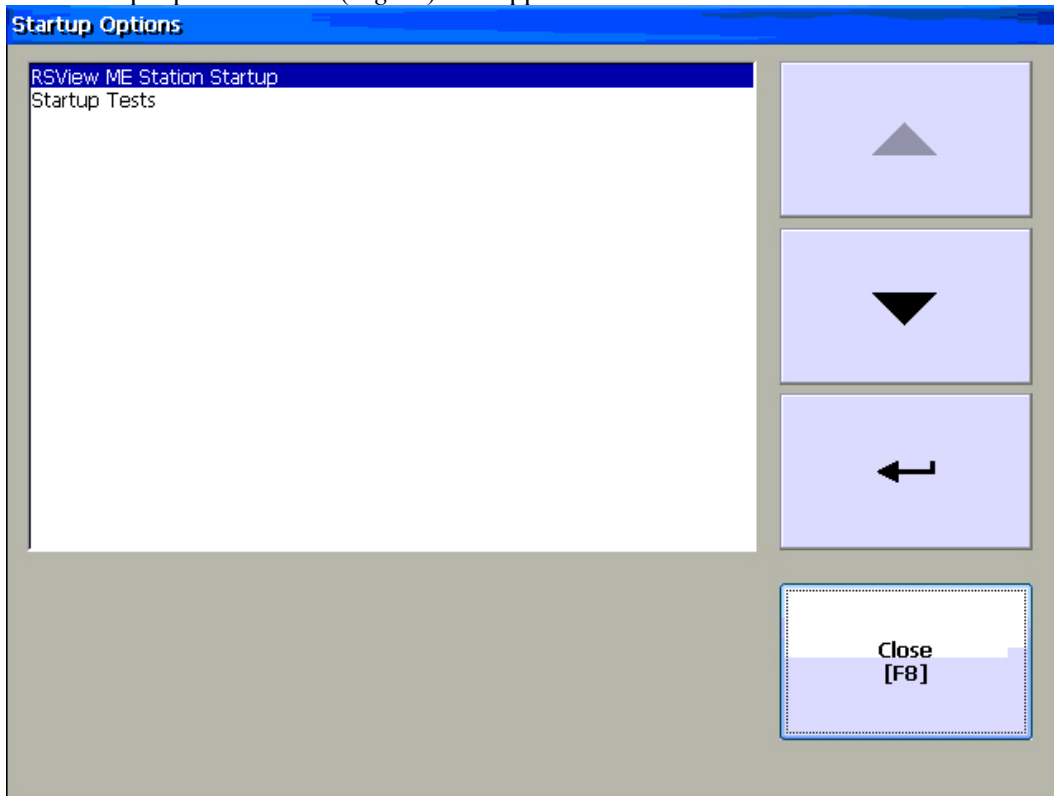

Fig 24
20. The Startup Options Screen (*Fig 24*) will appear.
25. The Startup Options Screen (*Fig 24*) will appear.